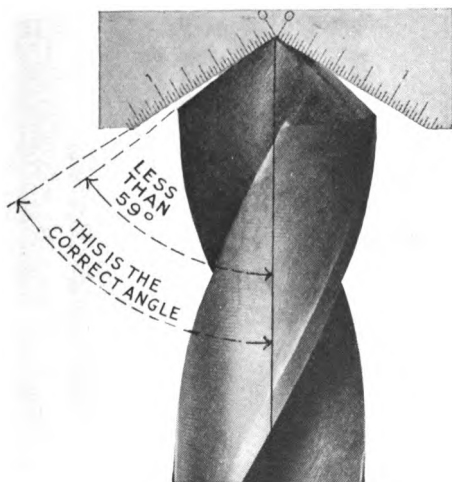

Fig. 15 — Incorrectly Ground Lips
- 35 If the angle of the cutting edges is *less* than 59 degrees as in Fig. 15, the tool drills much less rapidly and more power is required to drive it, because of the additional length of the cutting edges.